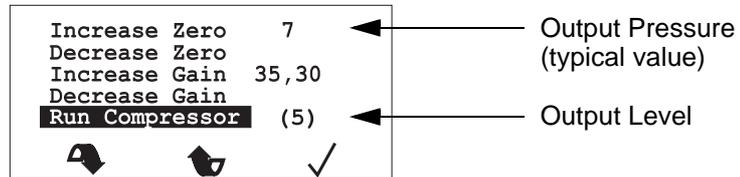

Figure 27 - LCD Display - Output Pressure
- 8.10 To start the test, scroll down the list of options to **Run Compressor**, and select it using the ✓ button. The compressor will start running at output level “5”, indicated by the (5) on the LCD display, and the **Output Pressure** shown on the LCD display should rise and then stabilize (Refer to Figure 27).